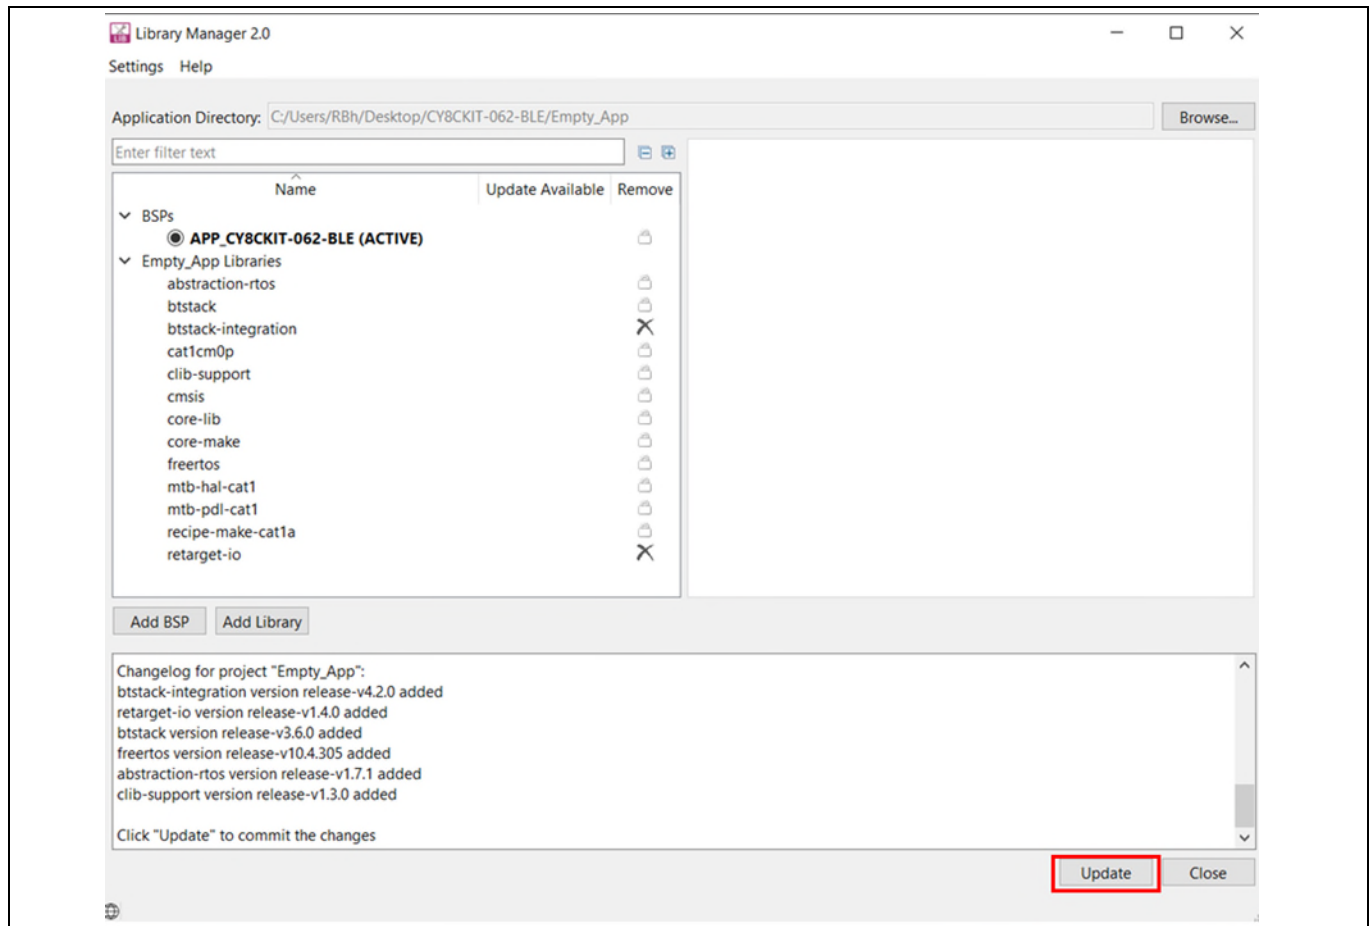

Figure 17 Libraries for Bluetooth® LE Find Me code example
- You have selected all the required libraries. To add them to the project, click on **OK** and then **Update**. Figure 17 shows all the libraries selected and their dependency libraries. The files necessary to use the retarget-io middleware are added in the *mtb_shared > retarget_io* folder, and the *.mtb* file is added to the *deps* folder. Similarly, you can find other libraries under the respective folder in the *mtb_shared* folder.